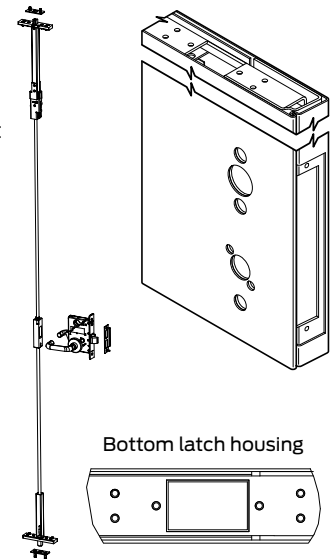

**Figure 11.1:** PW-Series hardware preparations
See Figure 11.1: PW-Series hardware preparations for reinforcement locations.
- See Figure 11.1: PW-Series hardware preparations for reinforcement locations.